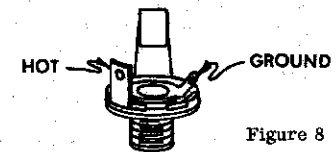

Figure 8
- () Connect the shield of the co-ax originating at point "1/2" to the ground lug of the 1/4-inch phone jack. Refer to figure 8.